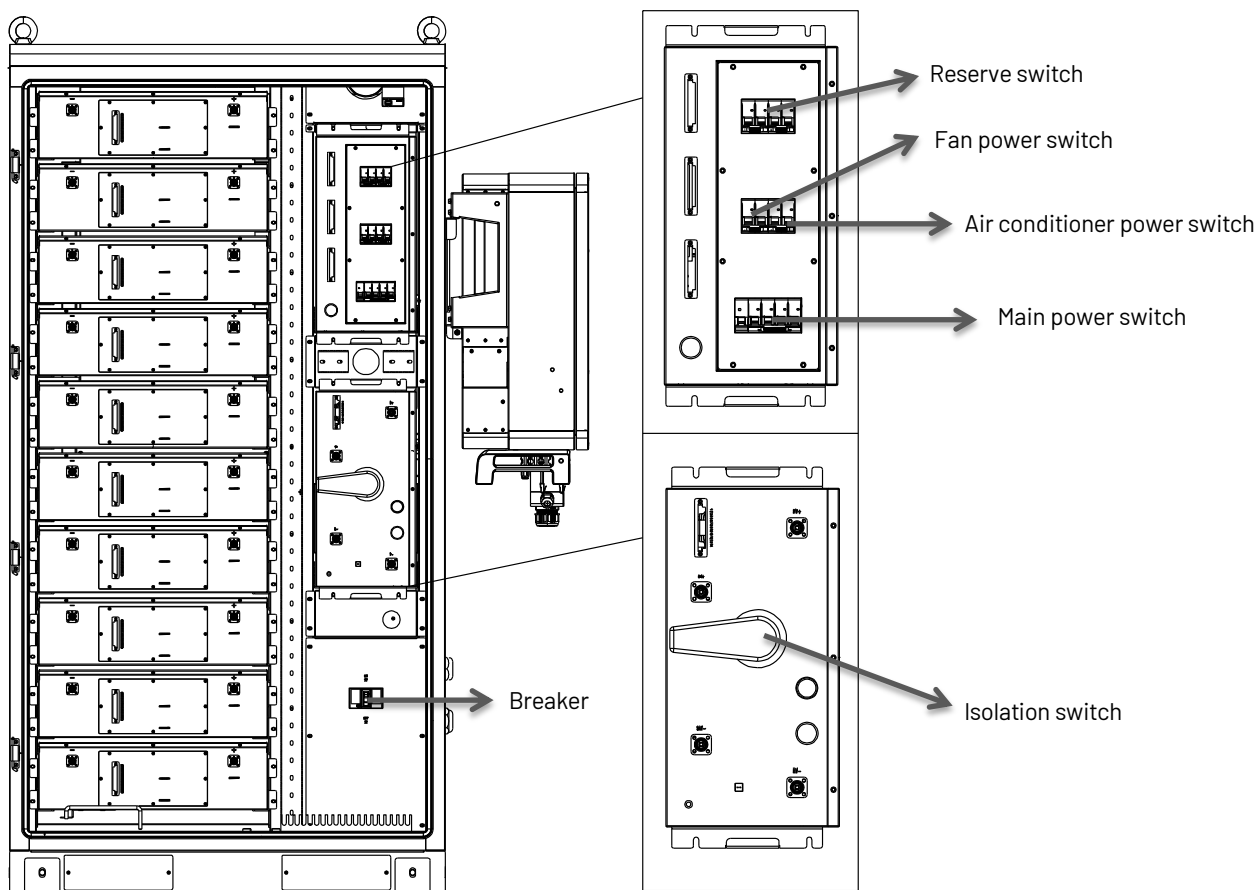
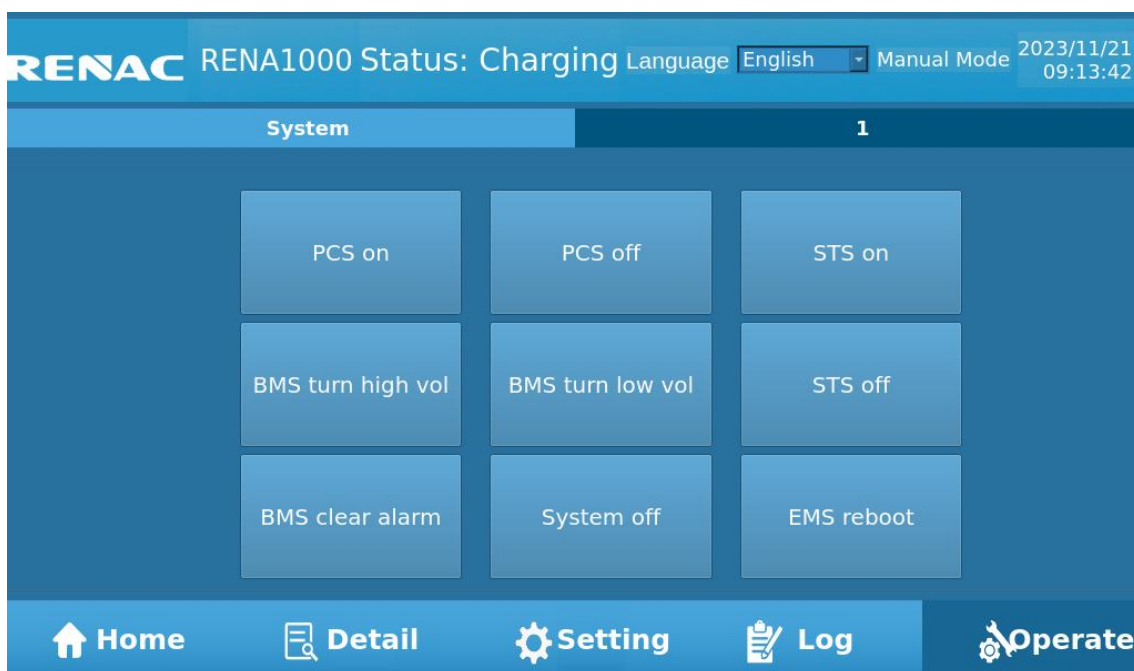

Figure 5-1 Distribution switch location diagram
Figure 6-2 Operation page
Once the off-grid function is enabled, the Run Mode can only be set to self-generation and self-consumption mode. Refer to Figure 5-1 for the setting interface.
(2) Ground check
(3) Cable check:
(4) Copper row check:
(5) Component check
- The main breakers are all in the open position. Refer to Figure 5-1.
- 4) Referring to Figure 5-1, close the main power switch, then close the air conditioner power switch as well as the fan power switch.
- 2) Referring to Figure 5-1, disconnect the breaker and power supply.
1. System open: first, check the whole machine on the power situation, refer to Figure 5-1, close the breaker, and then close the switch for air conditioning and fan power supply. At this time, the screen lights up, observe the touch screen without fault alarm (screen startup takes about 10 seconds), click on the screen in the "operation", click on the operation interface in the "BMS turn high vol" and then close the grid switch, the normal opening time is about 2 to 5 minutes, as shown in Figure 6-2.